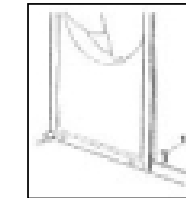

Fig 20.
- 2) Match the icemaker to its storage bin, fixing them with the two screws supplied with the machine (Fig.20).